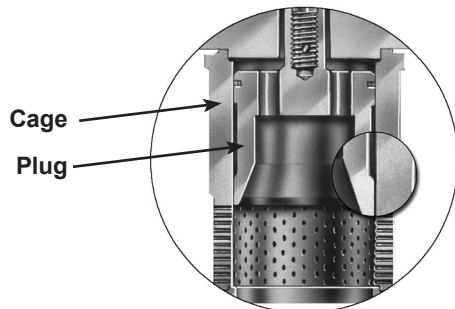
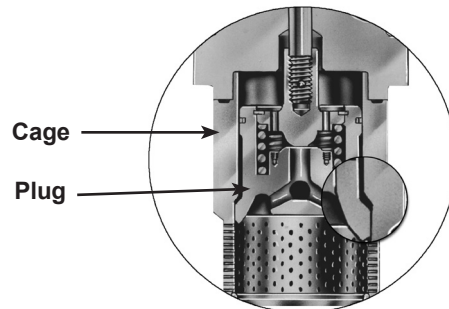

Figure 4 - Straight plug design
Figure 5 – Bell shaped plug, pilot design only
1. Remove the valve plug assembly from the valve cage by pulling the valve plug stem upward. In the case of the bell-shaped plug design (see Figure 5); pulling the plug stem will remove both the plug and cage together. For straight plug designs (see Figure 4), after removal of the plug lift the cage to remove from the valve body.